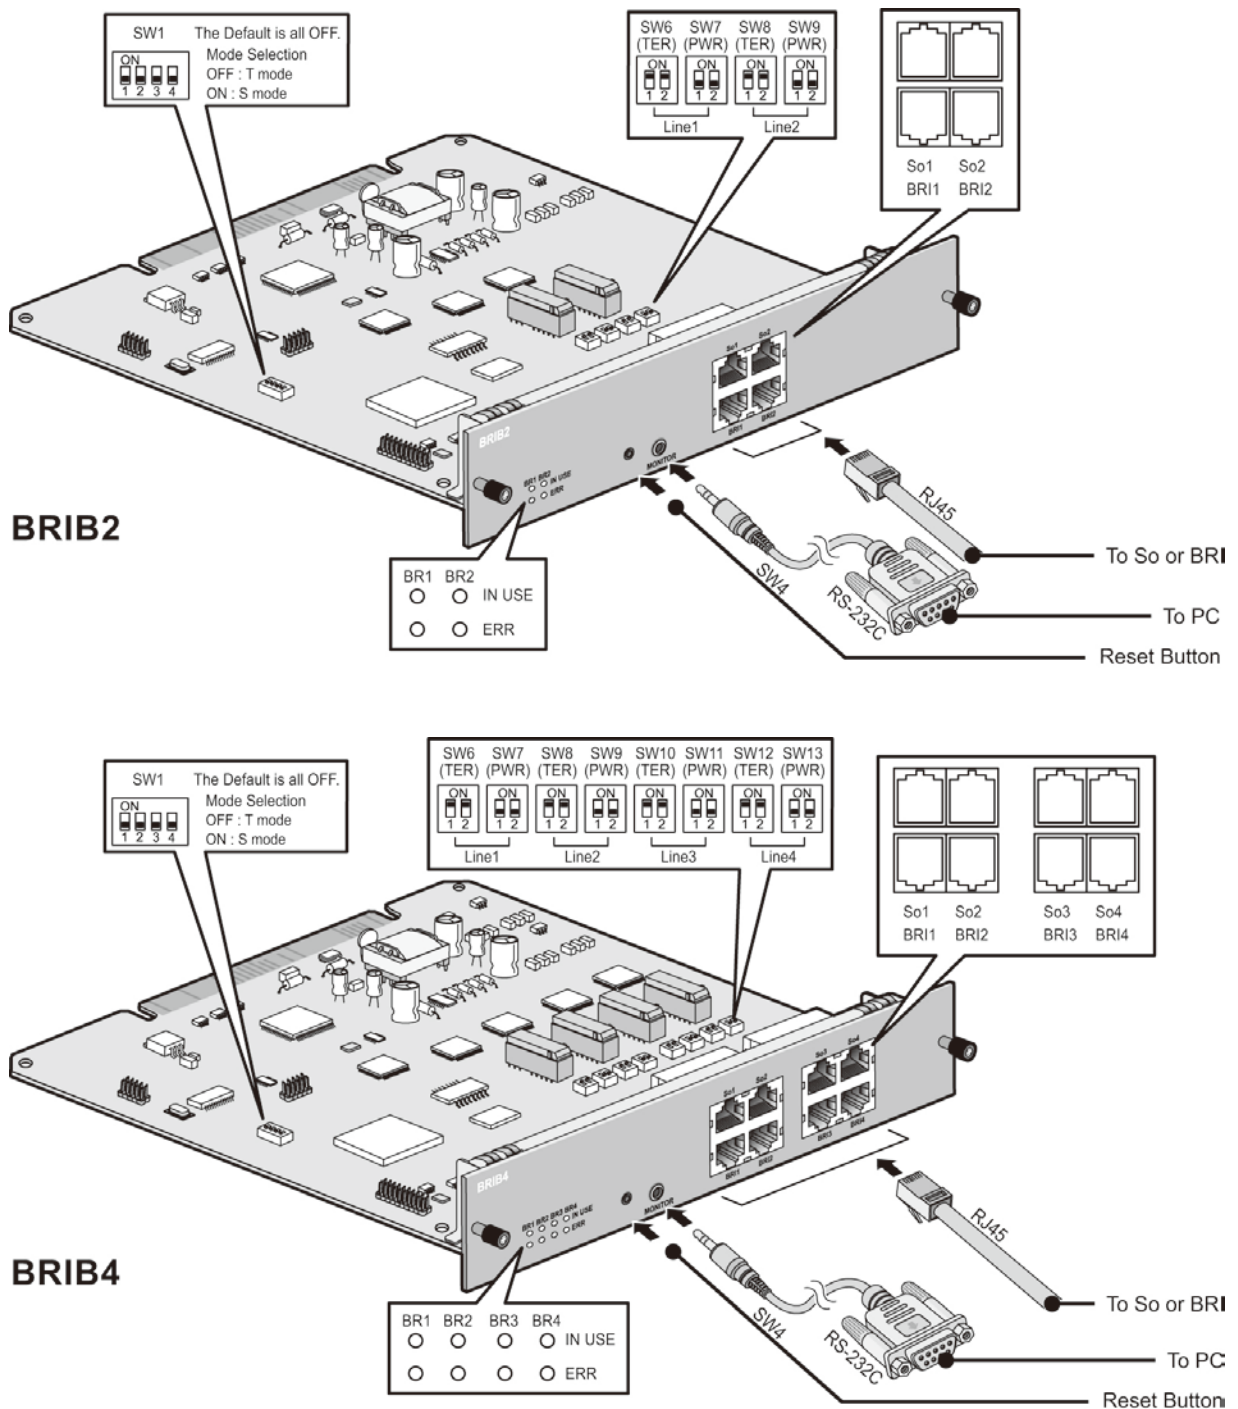

Figure 5.3.2-1 BRIB2 and BRIB4
The BRIB is available in two models, the BRIB2 with two (2) BRI lines (4 channels) and the BRIB4 with four (4) BRI lines (8 channels). The BRIB is compatible with ETSI 300.012 and ITU-T recommendations I.430 supporting S (Subscriber) or T (Trunk) interfaces. As shown in Figure 5.3.2.1, the S interface of the BRIB acts as the NT (Network Termination) connecting to TEs (Terminal Equipments) and can provide power feed (-40VDC) to the attached TEs (maximum eight TEs). A 100-ohm Terminating Resistor can be inserted across the TX and/or RX pair. When used, a 100-Ohm terminating resistor should be connected across the TX and RX pair at one of the TEs.